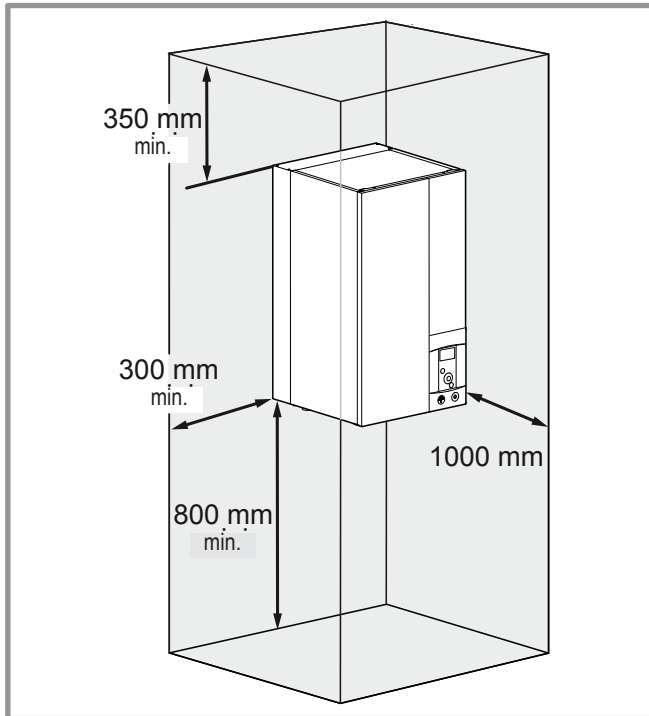

**figure 14 - Installation of the outdoor unit
- Water may flow out of the outdoor unit when it is operating. Do not install the unit on a paved terrace; choose a well-drained location (e.g. gravel or sand). If installation is carried out in an area where the temperature stays below 0°C for long periods, check that the presence of ice does not present any danger. A drainage pipe can also be connected to the outdoor unit (see figure 14).
The outdoor unit must be raised at least 50 mm above ground level. In areas prone to snow, this height should be increased but should not exceed 1.5 m (figure 14).
(see figure 14).